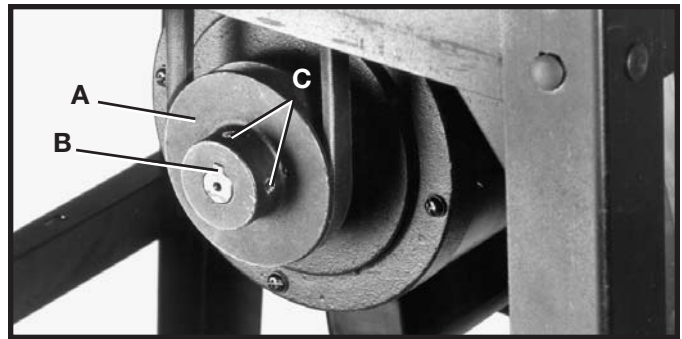
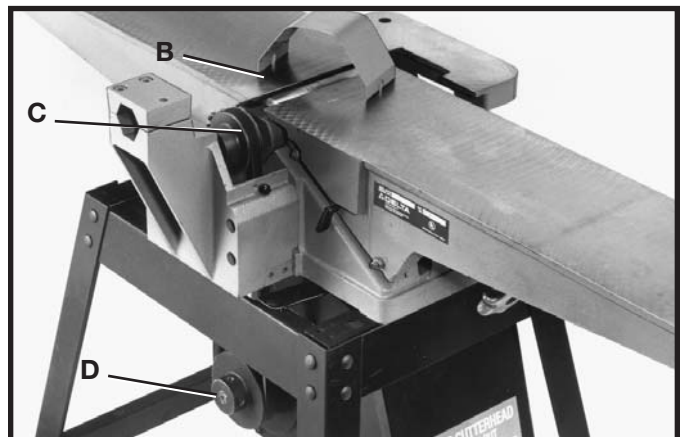

Fig. 16
Fig. 18
Assemble motor pulley (A) Fig. 16, to motor shaft with the hub of the pulley in the outer position as shown. Make sure key (B) is inserted in the keyway of the motor pulley and shaft.
2. Make certain the motor pulley (D) Fig. 18, is aligned with the cutterhead pulley (C). If necessary, the motor pulley (D) can be moved in or out on the motor shaft to provide proper alignment. Then tighten two set screws (C) Fig. 16.
3. Place the belt in groove of cutterhead pulley (C) Fig. 18, and motor pulley (D). To place belt onto pulleys, lift up on motor. (Motor mounting hardware should still be loose.)
6. Replace cutterhead pulley guard (B) Fig. 18, which was removed in **STEP 1**.